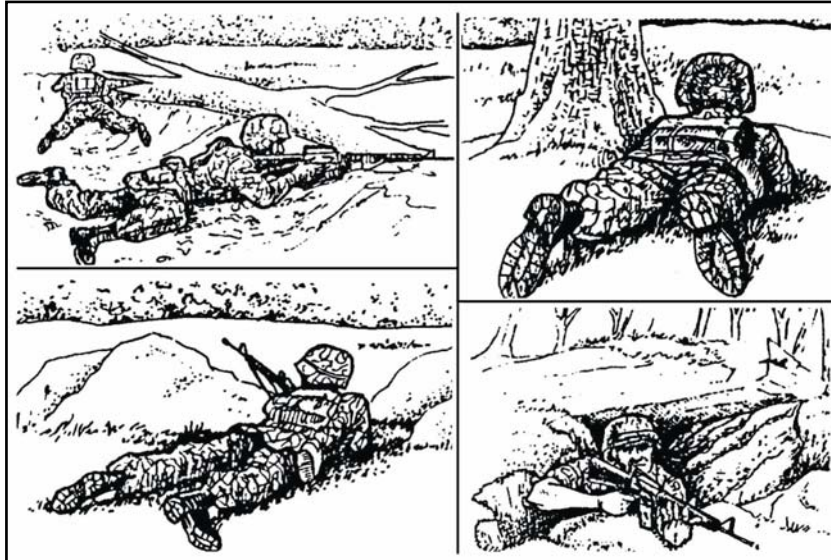

Figure 071-326-0511-1. Temporary fighting positions
1. Choose a position that takes advantage of available cover and concealment (figure 071-326-0511-1).